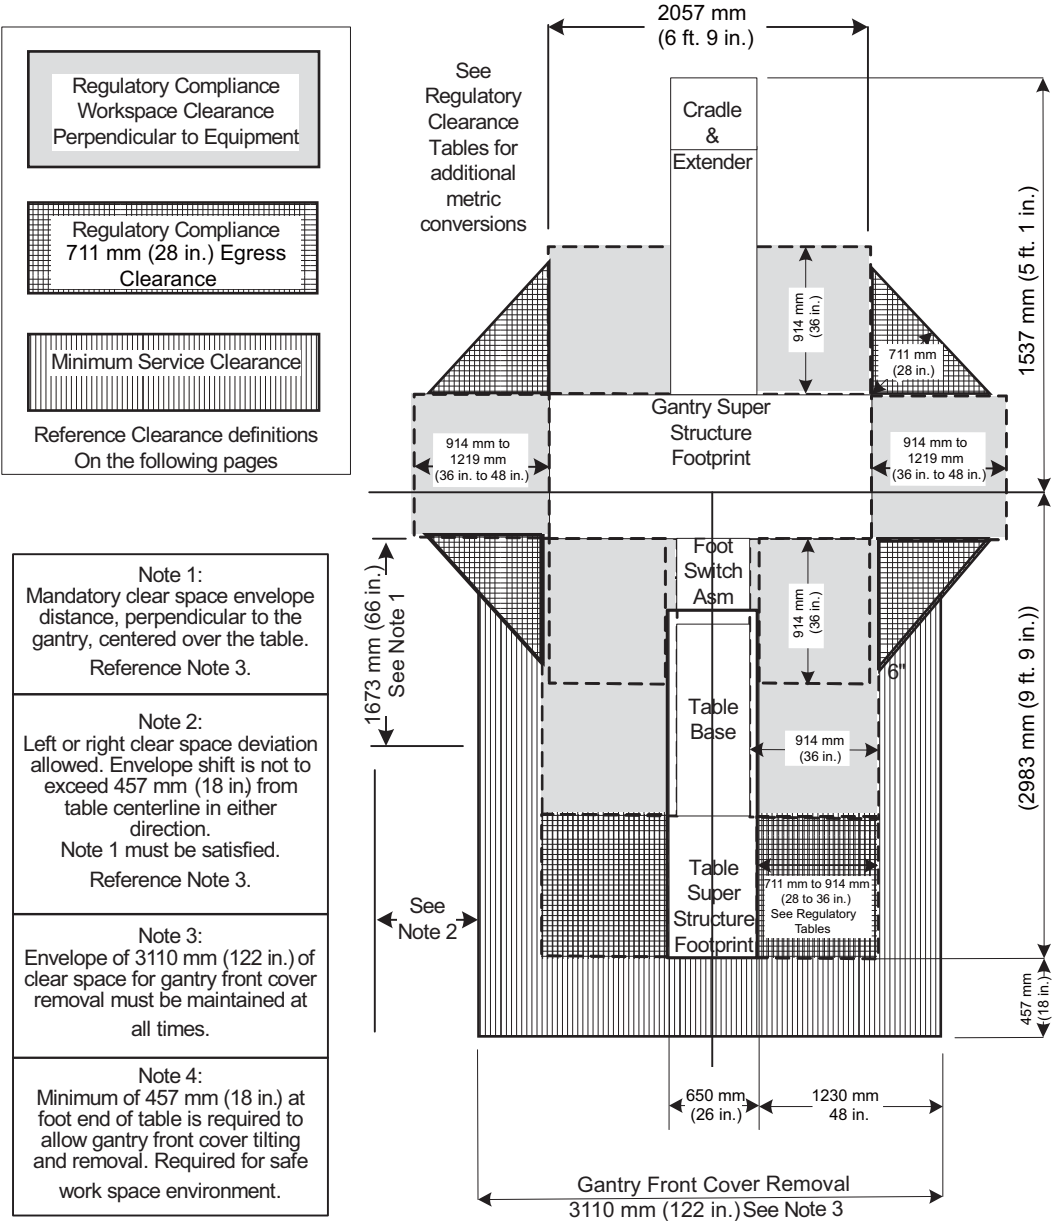

Figure 4-5 Minimum Service Clearance
- Gantry front cover removal requires the use of the “Tilting Cover Dollies”. These dollies allow the Service Engineer to separate the cover from the gantry, tilt the cover 90 degrees, roll the cover to the foot end of the table, and then tilt the cover an additional 90 degrees such that the front cover is now upside down relative to the normal system mounted condition. Figure 4-5 illustrates the minimum clear space required to achieve this operation. The gantry front cover must be removed to a position that satisfies the minimum regulatory clearances.
- The gantry rear cover, with service dollies installed, requires a width 2244 mm (88 in.) and a depth of 610 mm (24 in.) of clearance for removal. Sufficient space must be calculated to move the cover either straight back or to a side of the table to satisfy the minimum regulatory clearance shown in Figure 4-5. This means the rear cover cannot violate the workspace on the rear or either side of the gantry.